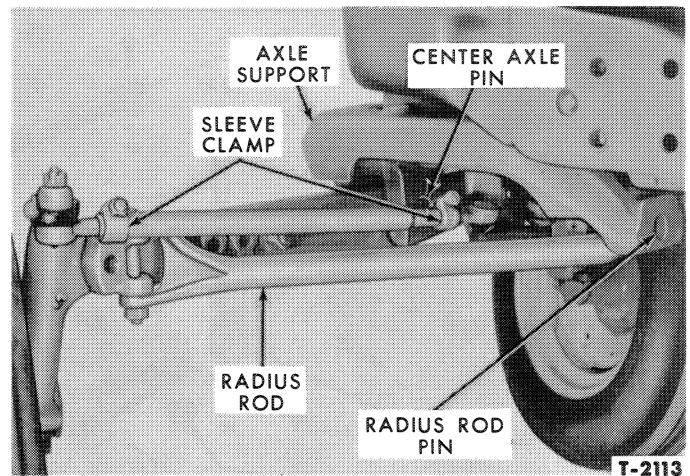

Figure 24—Removing Drag Link
1. Remove the cotter pin and castellated nut from both ends of the spindle connecting rod, Figure 24.